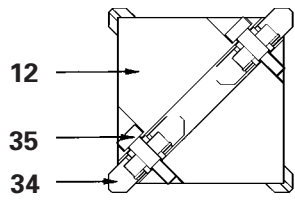
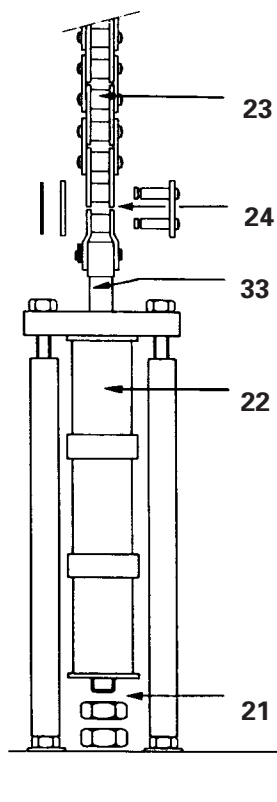
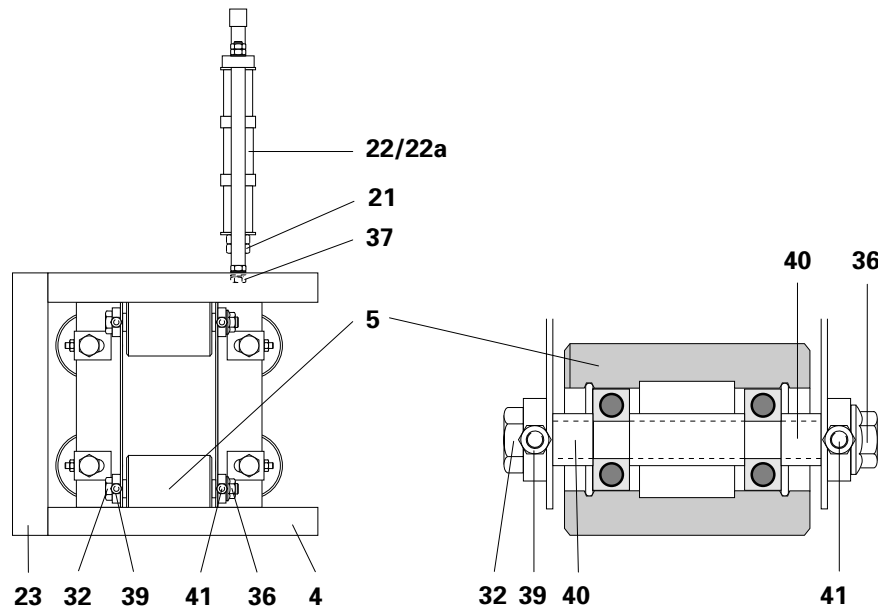

Figure 6
Figure 8
Figure 9
2. Loosen the nuts (**21** - Fig. 8) of both plastic tension pads (**22/22a** - Fig. 8) = Tension the drive chain (**10**) and drive chain (**10a**).
3. Remove the connecting links (**24** - Fig. 8) between the drive chain (**10**) and the tensioning bolt (**33** - Fig. 8) = Drive chain (**10**) released.
11. Fit the drive chain (**10**) on the tensioning bolt (**33** - Fig. 8).
14. Fit the end of the reversing chain (**10a**) to the upper tensioning bolt (**33** - Fig. 8).
15. Tighten the nuts (**21** - Fig. 8) of both plastic tension pads (**22/22a**) until both chains (**10/10a**) can no longer be pressed on to the column (**9**) with the hand.
2. Loosen the nuts (**21** - Fig. 9) of both plastic tension pads (**22/22a** - Fig. 9) = Tension of the drive chain (**10** - Fig. 4) and drive chain (**10a** - Fig. 4) is released.
3. Remove the connecting links (**24** - Fig. 8) between the drive chain (**10** - Fig. 4) and the tensioning bolt (**33** - Fig. 8) = Drive chain (**10** - Fig. 4) released.
12. Fit the drive chain (**10a** - Fig. 4) on the upper plastic tension pad (**22a** - Fig. 9).
13. Tighten the nuts (**21** - Fig. 9) of both plastic tension pads (**22/22a** - Fig. 9) until the drive chains (**10/10a** - Fig. 4) can no longer be pressed onto the column (**9** - Fig. 4) with the hand.
2. Loosen the nuts (**21** - Fig. 9) of both plastic tension pads (**22/22a** - Fig. 6) = Tension of the drive chain (**10/10a** - Fig. 4) is released.
3. Remove the tension bolt (**33** - Fig. 9) and the old plastic tension pads (**22/22a** - Fig. 6) and replace the pads
4. Slide the tension bolt (**33** - Fig.9) into the new pads.
5. Tighten the nuts (**21** - Fig. 6) of both plastic tension pads (**22/22a** - Fig. 6) until the drive chain (**10/10a** - Fig. 4) can no longer be pressed onto the column (**9** - Fig. 8) by hand.
2. Loosen the nuts (**21** - Fig. 9) of both plastic tension pads (**22/22a** - Fig. 9) = Tension of the drive chain (**10/10a** - Fig. 4) is released.
4. Remove the connecting link (**24** - Fig. 8) between the lower plastic tension pads (**22** - Fig. 8) and the drive chain (**23** - Fig. 8).
5. Fit a wire to the loose end the drive chain (**23** - Fig. 8) to prevent it from falling inside the column.
7. Replace the worn rollers (**34** - Fig. 6).
1. Remove the shoulder screw (**35** - Fig. 6).
2. Replace the roller (**34** - Fig. 6).
3. Refit the shoulder screw (**35** - Fig. 6).
9. Pull the drive chain (**23** - Fig. 8) out with the aid of a wire.
12. Connect the drive chain (**23** - Fig. 8) to the plastic tension pads (**22** - Fig. 8).
13. Tighten the nuts (**21** - Fig. 9) of both plastic tension pads (**22/22a** - Fig. 9) until the drive chain (**10/10a** - Fig. 4) can no longer be pressed onto the column (**9** - Fig. 4) by hand.
1. Open the service panel (**13** - Fig. 1) in order to tighten the nuts (**21** - Fig. 9) of the plastic tension pads (**22/22a** - Fig. 9).
2. Loosen the nuts (**21** - Fig. 9) of both plastic tension pads (**22/22a** - Fig. 9) = Tension of the drive chains (**10/10a** - Fig. 4) is released.
5. Remove the connecting links (**24** - Fig. 8) between the plastic tension pads (**22** - Fig. 8) and the drive chain (**10/10a** - Fig. 4) = Upper and lower drive chains (**10/10a** - Fig. 4) released.
7. Dismantle both plastic tension pads (**22/22a** - Fig. 9) by loosening the nuts (**37** - Fig. 9) and fit to the Z Carriage (**4**).
8. Dismantle the cover plate (**23** - Fig. 9) and fit to the new Z Carriage (**4**).
9. Slide the new Z Carriage (**4** - Fig. 9) on to the column (**9** - Fig. 4).
13. Tighten the nuts (**21** - Fig. 9) of both plastic tension pads (**22/22a** - Fig. 9) until the drive chain (**10/10a** - Fig. 4) can no longer be pressed onto the column (**9** - Fig. 4).